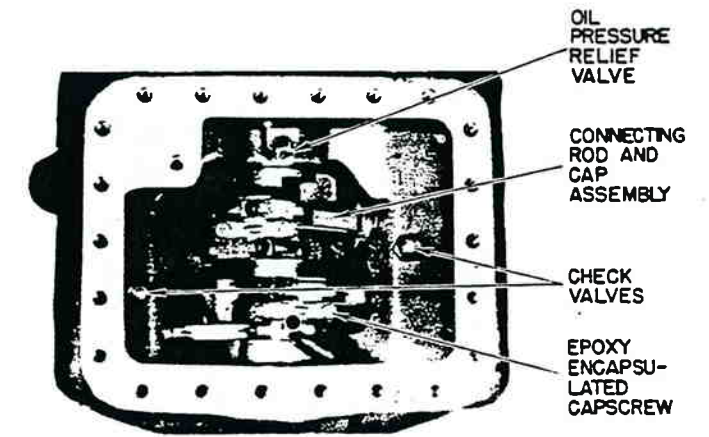

Figure 16-30: Compressor Crankcase Parts
12. Remove the capscrews, flat washers and connecting rod caps (figure 16-30).